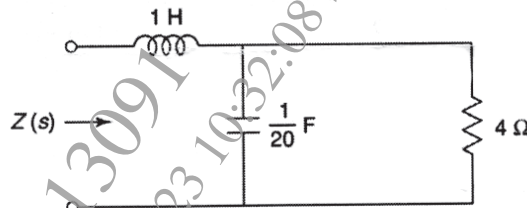

Fig. 3
- c) Determine $Z(s)$ in the network shown in Fig.3. Find poles and zeros of $Z(s)$ and plot them on s-plane. [6]